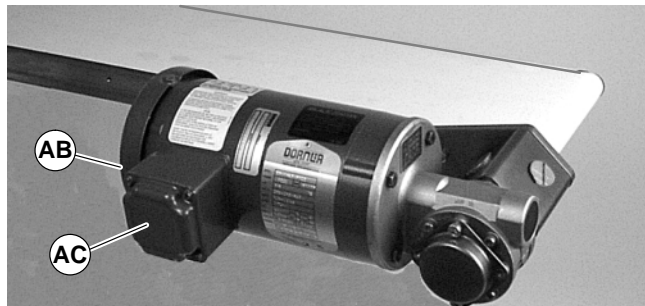

Figure 17
- a. Loosen terminal box screws (AB of Figure 17) and remove cover (AC).